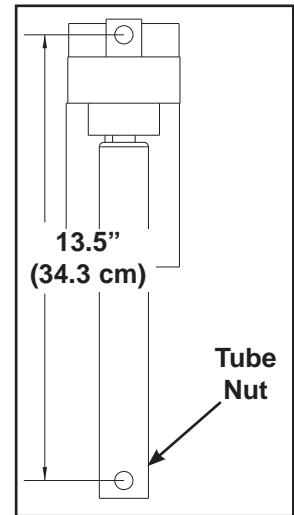

Figure 9
- Turn the tube nut with your fingers until it measures 13.5" (34.3 cm) from the center of the top hole to the center of the bottom hole. See Figure 9.